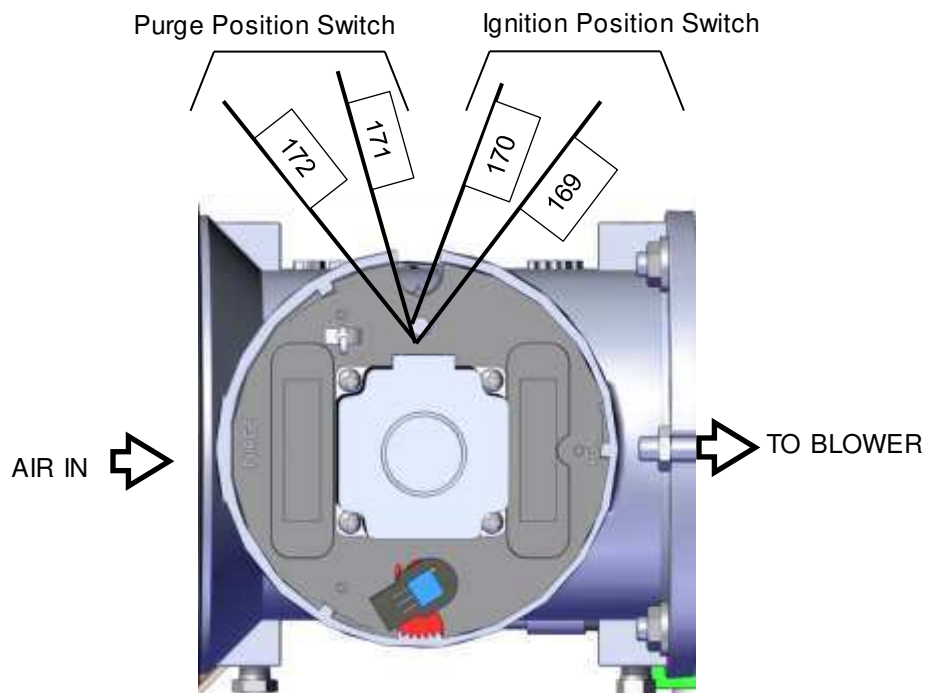

Figure 5-11a: Air/Fuel Purge and Ignition Locations – BMK750/1000
5. Remove one of the two wires (#171 or #172) from the Purge switch (Figure 5-11a – 5-11c).
5. Remove one of the wires (#169 or #170) from the Ignition switch (see Figure 5-11a–5-11c, above).